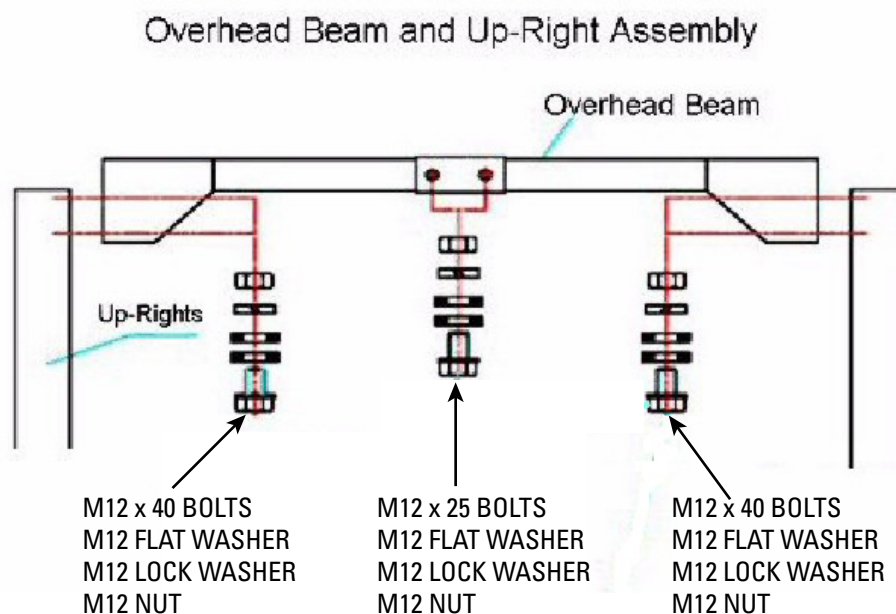

Figure 2-5. Overhead Beam Installation
1. Install the overhead cross beam as shown in figure 2-5. This cross beam has two pieces, to be connected by six (6) bolts in the center of the beam. **Be sure to bolt them together by installing the bolts from inside the cross beam out.** This is to avoid interference with the cable when operating the lift.